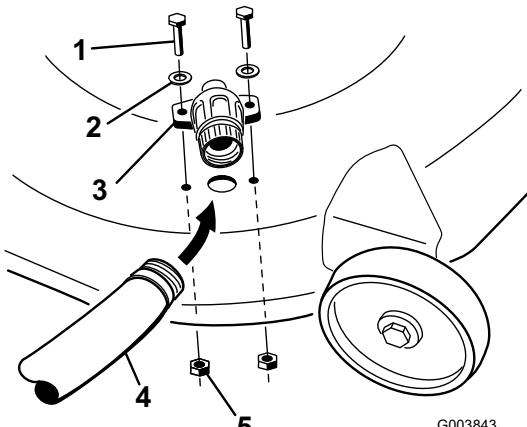

Figure 1
5. Install the washout port on the mower facing outward, and secure it with the bolts and locknuts provided in the kit (Figure 1).